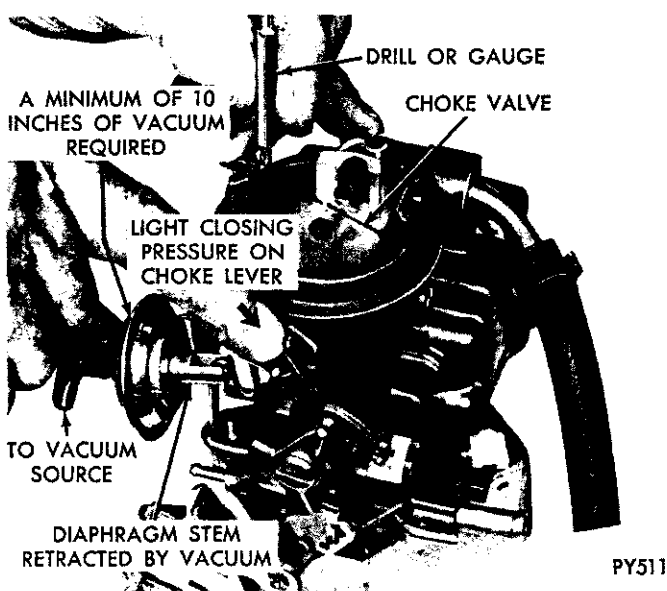

Fig. 12—Checking Choke Vacuum Kick Setting
(1) If adjustment is to be made with engine running, back off fast idle speed screw until choke can be closed to the kick position with engine at curb idle. (Note number of screw turns required so that fast idle can be returned to original adjustment). If an auxiliary vacuum source is to be used, open throttle valve (engine not running) and move choke to closed position. Release throttle first, then release choke.
(2) When using an auxiliary vacuum source, disconnect vacuum hose from carburetor and connect it to hose from vacuum supply with a small length of tube to act as a fitting. Removal of hose from diaphragm may require forces which damage the system. Apply a vacuum of 10 or more inches of mercury.
(3) Insert specified drill (refer to Specifications) between top of choke valve and wall of air horn (Fig. 12). Apply sufficient closing pressure on lever to which choke rod attaches to provide a minimum choke valve opening without distortion of diaphragm link. Note that the cylindrical stem of diaphragm will extend as internal spring is compressed. This spring must be fully compressed for proper measurement of vacuum kick adjustment.
(4) An adjustment will be necessary if a slight drag is not obtained as drill is being removed. Shorten or lengthen diaphragm link to obtain correct choke opening. Length changes should be made carefully by bending (open or closing) the bend provided in diaphragm link. **CAUTION: DO NOT APPLY TWISTING OR BENDING FORCE TO DIAPHRAGM.**
(5) Reinstall vacuum hose on correct carburetor fitting. Return fast idle screw to its original location if disturbed as suggested in Step No. 1.